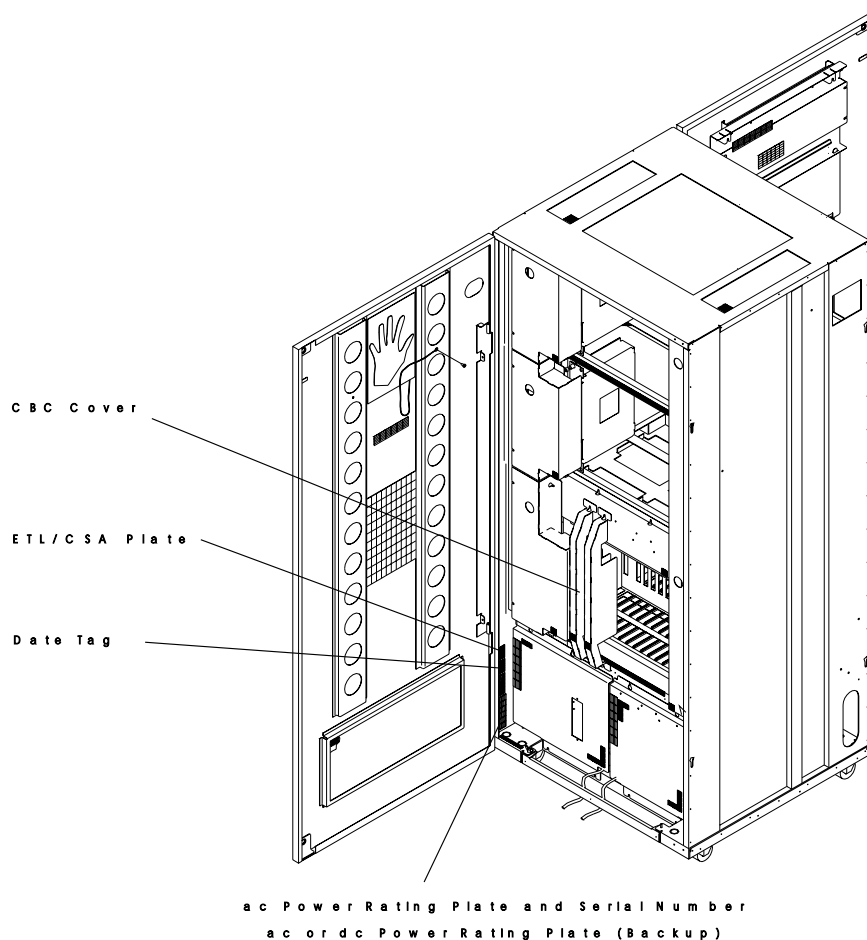

Figure 2-1. 3746-900 Power Rating Plate (Rear View)
- Step 3. ____ Open the rear door. Locate the power rating plate (see Figure 2-1). **Check that the 3746-900 Basic ac power and the Optional ac power rating plate data are consistent with the customer's available voltage AC and the frequency.**
- Step 5. ____ Check that the serial number stamped on the frame is the same as on the serial number plate (see Figure 2-1 for location).
2. ____ Remove the CBC covers (see Figure 2-1 on page 2-2).